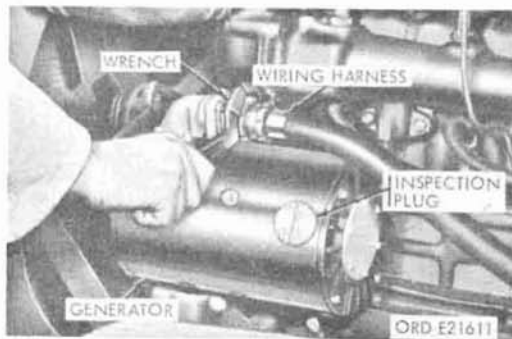
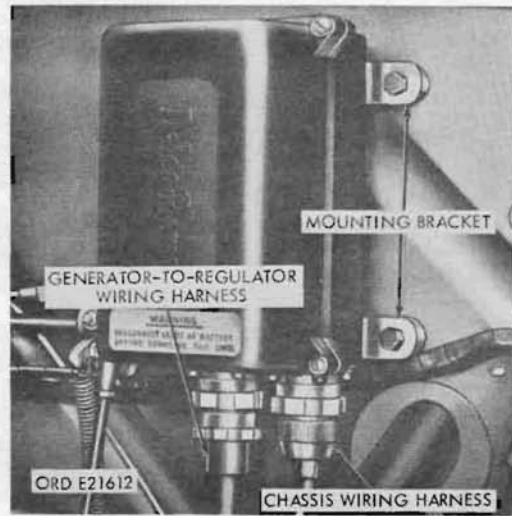

Figure 151. Disconnecting generator-to-regulator wiring harness from generator
Figure 152. Generator regulator
- (1) General. The charging system consists of a generator and a generator regulator. The purpose of these units is to keep the batteries fully charged and to supplement the battery current for the ignition and lighting systems when the speed of the engine permits.
- (2) Generator (fig. 151). The watertight generator is either a two- or four-brush, four-pole, shunt-type unit. The generator is mounted on the left side of the engine and is driven by drive belts from the crankshaft.
- (3) Generator regulator (fig. 152). The watertight generator regulator contains three units; a voltage regulator, a current regulator, and a cutout relay. The regulator is mounted in the rear of the engine compartment on the front side of the firewall near the steering column. Two models of regulators have been used. The later model regulators are installed vertically, the older models are installed horizontally.
a. Inspection (Fig. 151). Remove the generator inspection plug and inspect the commutator.
c. Removal. Loosen nut on generator-to-regulator wiring harness at generator (fig. 151), and pull the cable from the generator. Remove two nuts from the screws holding the generator to the mounting brackets (fig. 113). Remove the screw and lockwasher holding the generator to the adjusting arm and push the generator toward the engine as far as it will go. Remove the drive belts from the generator pulley. Remove the two screws holding the generator to the mounting brackets and remove the generator.
e. Polarization. When a new or rebuilt generator or regulator has been installed, or the generator-to-regulator wiring harness has been disconnected for any reason, the generator must be polarized after the unit is installed and before the engine is started. Disconnect the generator-to-regulator wiring harness at the generator (fig. 151). Disconnect the chassis wiring harness (fig. 152) at the regulator. Leave the generator-to-regulator wiring harness connected to the regulator. Use a jumper wire, and momentarily connect the field terminal "B" at the generator, to the battery-to-generator-regulator "A" cable terminal in the chassis wiring harness connector. Remove the jumper wire. Connect the chassis wiring harness to the regulator, and the generator-to-regulator wiring harness to the generator and tighten the connections.
b. Removal. Disconnect the generator-to-regulator wiring harness at the regulator (fig. 152). Disconnect the chassis wiring harness at the regulator. Remove four screws attaching the regulator to the mounting bracket, and remove the regulator.
c. Installation. Position the regulator on the mounting bracket with the harness connector receptacles downward. Secure with four external-teeth lockwasher screws. Connect the generator-to-regulator wiring harness to the regulator (fig. 152), and tighten the connector. Connect the chassis wiring harness to the regulator. Polarize the generator (par. 108 e).